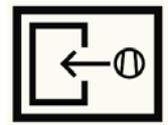

Fig. 5-1
1. The NitroFlow® HP must be connected to the pressurized air supply on the inlet indicated with the icon (fig. 5-1).